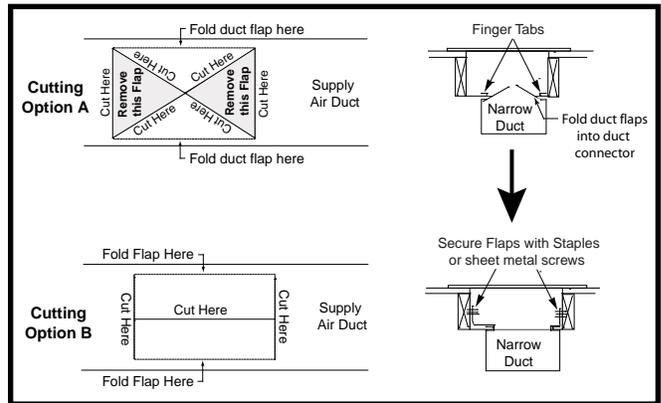

Figure 12. Narrow Air Ducts - Option 1
- Bend the connector tabs on the bottom of the duct connector upwards and as tight as possible against the supply air duct. See Figure 12 (page 16).
- Select Option A or Option B in Figure 12 and cut the top of the supply air duct. Remove metal flaps from the duct (shaded area) if Option A is selected.
- Form the duct flaps up against the side of the duct connector as tight as possible. See Figure 12.